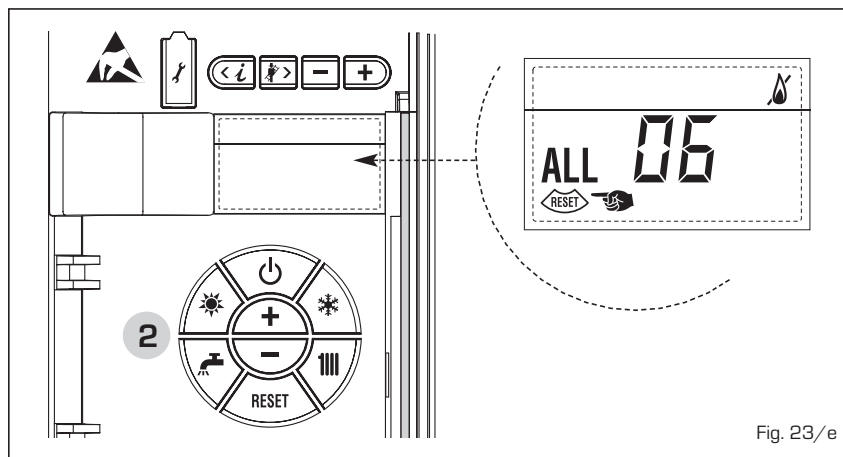

Fig. 23/e
- SAFETY THERMOSTAT ANOMALY ALARM 07 (fig. 23/f)